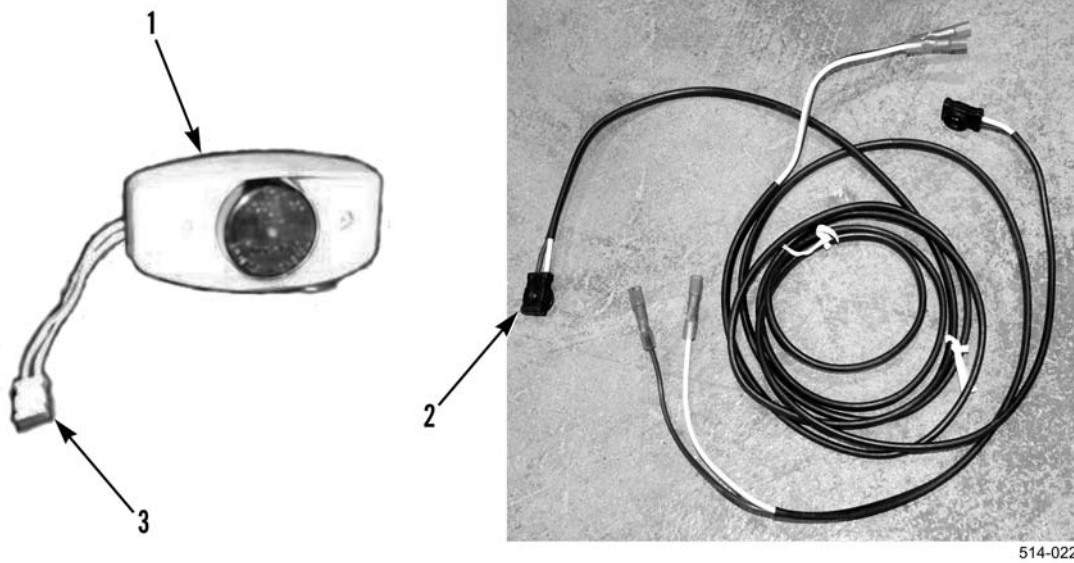

Figure 62. LED Light Extension.
15. Position light (Figure 62, Item 1) next to slider bed, feed light connector (Figure 62, Item 3) through hole in side of slider bed, and connect extension wire connector (Figure 62, Item 2) to light connector.
16. Install light (Figure 62, Item 3) and two screws (Figure 62, Item 4) on slider bed.